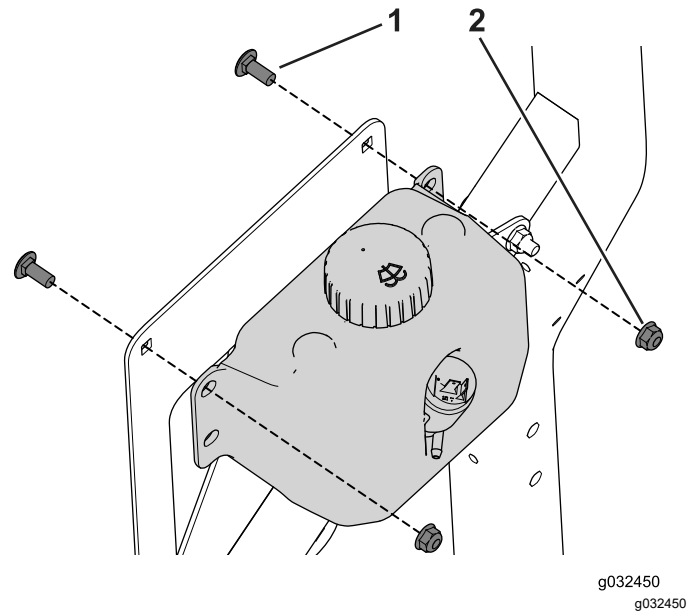

Figure 34
3. Use the 2 carriage bolts (5/16 x 3/4 inch) and flange nuts to secure the washer bottle to the bracket (Figure 34).